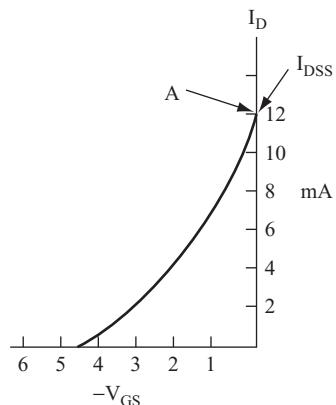

FIGURE 4.28
38 Refer to the transfer curve shown in Figure 4.28 to answer the following questions.
Using the transfer curve shown in Figure 4.28, answer the following:
- 41** Now, turn the JFET OFF. From the curve shown in Figure 4.28, you can see that a cutoff value of -4.2 volts is required. Use a gate to source value of -5 volts to ensure that the JFET is